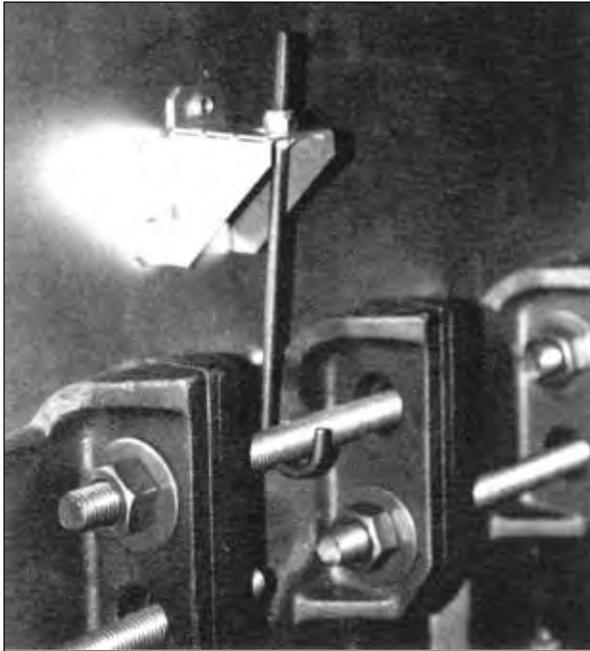

Figure 17: Left Side Canopy Intermediate Bracket
2. Attach the two (2) canopy brackets to the front end cap of canopy with four (4) #10 x 1/2" sheet metal screws each.
10. Attach either the rear flue outlet damper assembly or rear outlet canopy cover to the canopy with the 5/16" flat washers, lock-washers and brass nuts and tighten securely. Attach the rear flue outlet damper assembly or cover to the back section with the four (4) 5/16" flat washers and cap screws and tighten securely.
12. On the longer canopy sizes, Intermediate Mounting Brackets are provided, two (2) are required on sizes 24-07 thru 24-09 and four (4) are required on sizes 24-10 thru 24-12A. Refer to Figures 17 and 18.
- b. Secure brackets to both sides of canopy with three (3) #10 x 1/2" sheet metal screws per bracket.
face outward). Secure canopy with 5/16" flat washers, lock washers and brass nuts. See Figure 17.